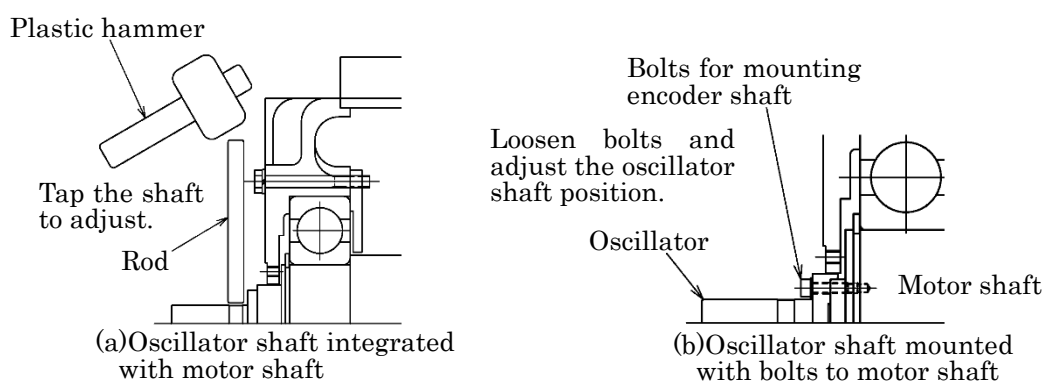

Fig.16 Shaft runout correction method
- (a) If the encoder mounting shaft is integral with the motor shaft (Refer to Fig.16 (a)), adjust by tapping the shaft end with a plastic hammer (Less than 2LB) and a rod of soft material that does not damage the shaft. (For example, Duracon) Be careful as the impact may cause an abnormality if the shaft is subjected to an extremely strong impact.
- (b) If the encoder mounting shaft is fixed to the motor shaft with bolts (Refer to Fig.16 (b)), loosen its bolts and adjust the mounting position. Be careful not to forget to tighten the bolt tightly at the end.
- (15) After assembling, rotate the shaft manually to confirm smooth rotation.